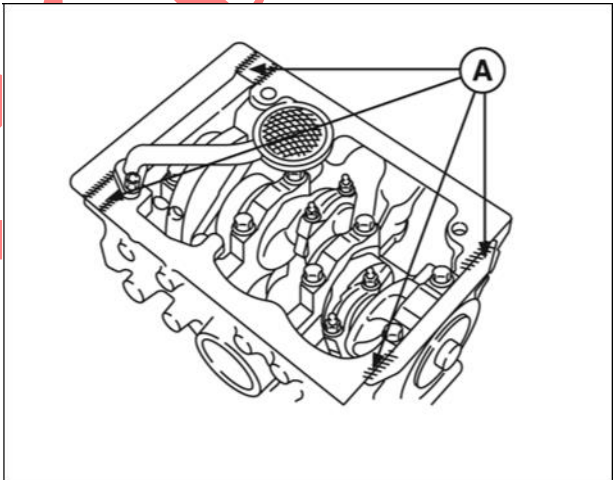

Figure 8
2. Apply small bead of Permatex® No. 2 or similar sealant to crankcase areas (A, Figure 8).